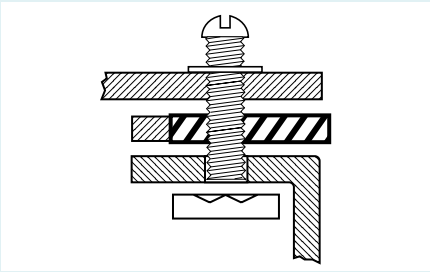

Figure 32 Bolt-Through Gasket Mounting
D. Bolt-Through Holes This is a common, inexpensive means to hold gaskets in position (see Figure 32). For most Chomerics metal shielding products, providing bolt holes involves only a small tooling charge, with no additional cost for the holes